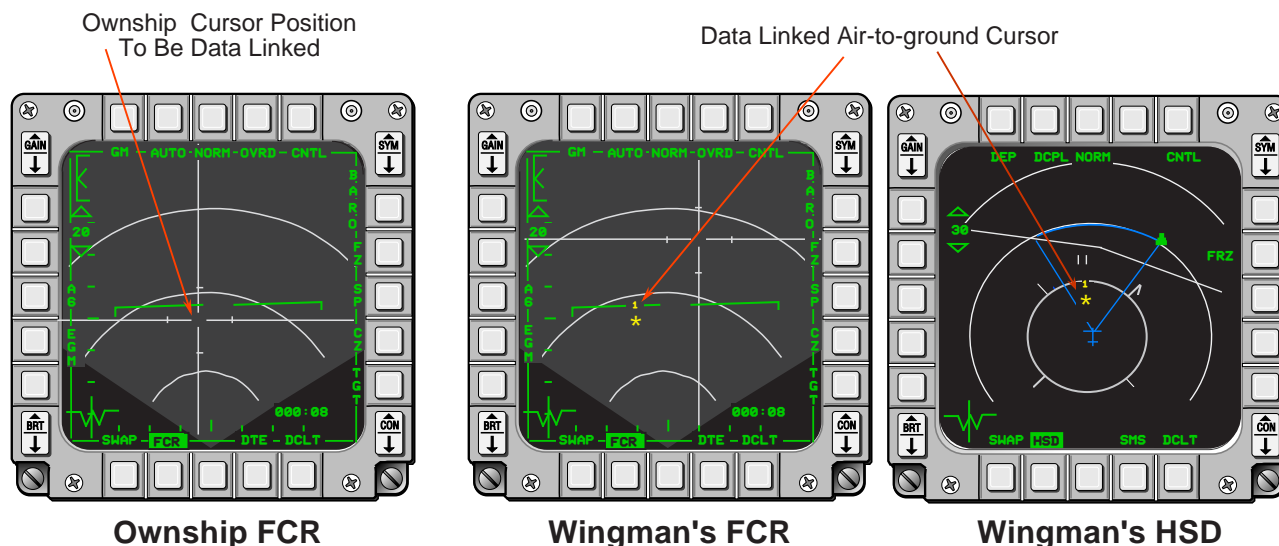

Figure 1-72 Transmission of A-G Cursor
**A-G Cursor Position Data Link.** The pilot may transmit a data linked air-to-ground radar cursor position to other aircraft similar to the way he transmits the selected steerpoint. This capability is independent of system master mode, but the FCR must be in GM, GMTI, SEA, or BCN mode and the FCR must be the SOI. The air-to-ground radar cursor position (coordinates) is transmitted by making the FCR the SOI, placing the cursor over the desired point on the FCR display, and pressing the COMM switch inboard (See Figure 1-72). An audio tone will be present in the pilot's headset during the transmission and the XMT label at OSB 6 on the HSD will highlight for two seconds. The transmitting pilot determines who will receive the message by selecting the transmit address the same way as explained in the preceding selected steerpoint section.